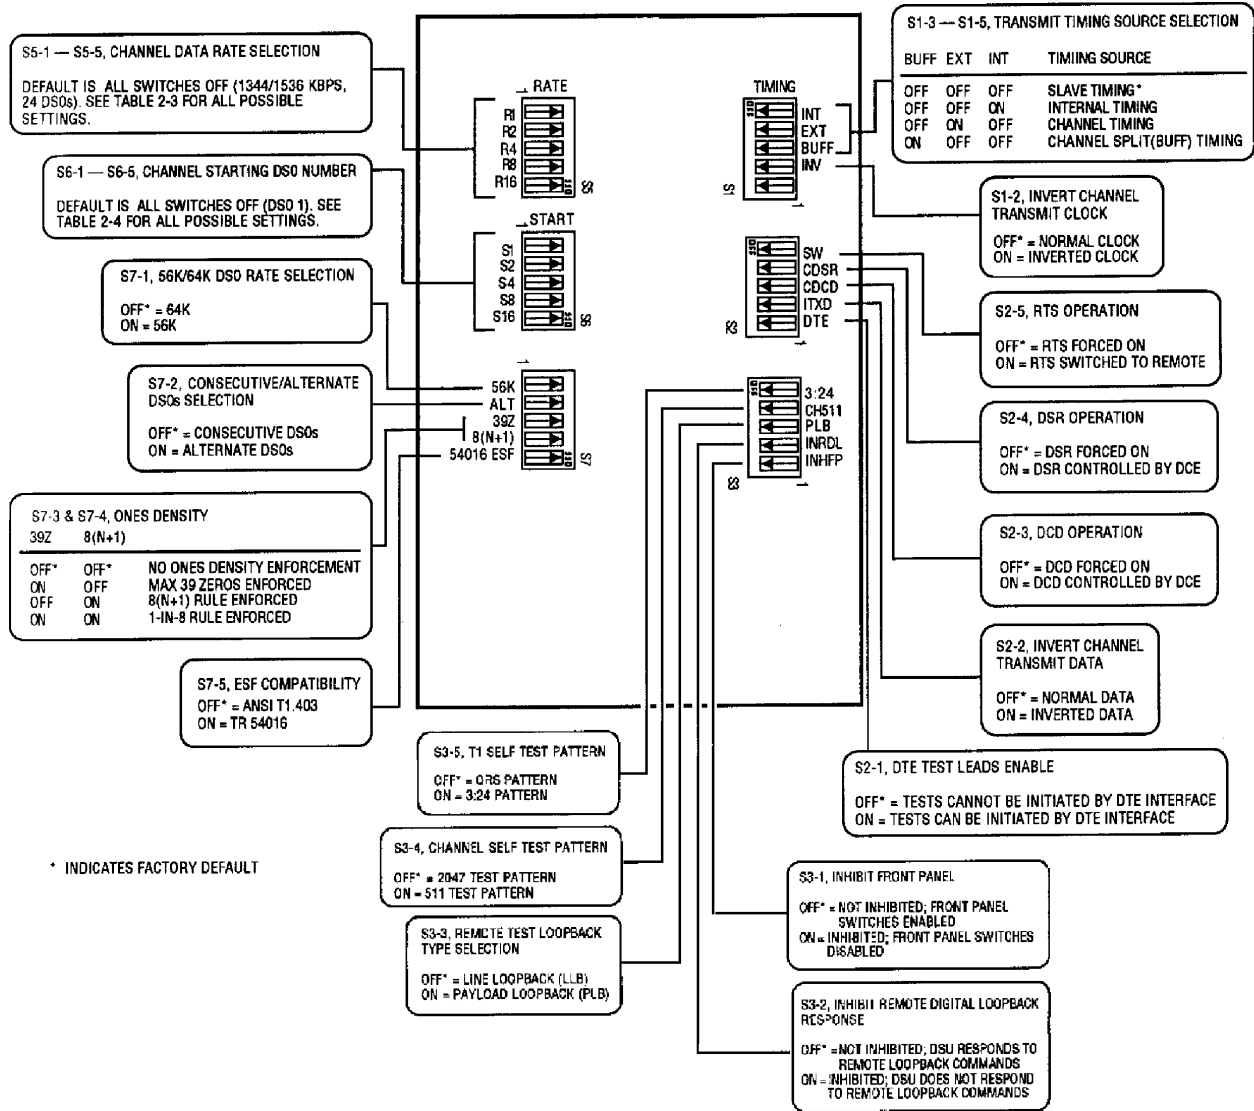

Figure 2-8 Option Card Switch Locations and Setting
- Figure 2-8 illustrates the locations of Option Card option switchbanks.
Refer to Figure 2-8 and to Table 2-2 for the location and description of Option card switch settings.